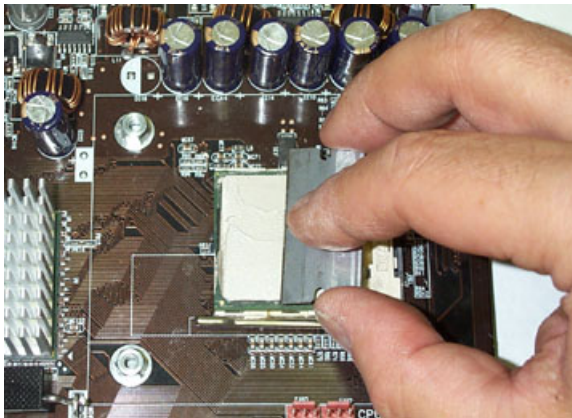

Figure 4
Since you have grease inside the socket, some hydraulic pressure lift may occur: for this reason, make sure that the processor sits perfectly flat, and is inserted all the way into the socket. Then, coat the processor core with high quality thermal compound. **Only a paper-thin coat is necessary.** It should be applied using preferably a razor blade, or a credit card held between thumb and index at a 45-degree angle as shown on figure 4.
**Use a euro-style wire connector** as shown in fig 4 below, or similar device with a current rating of at least 25 amps. Connect red wire from TEC module to +12V of P/S (Yellow wire), and black wire to black wire: